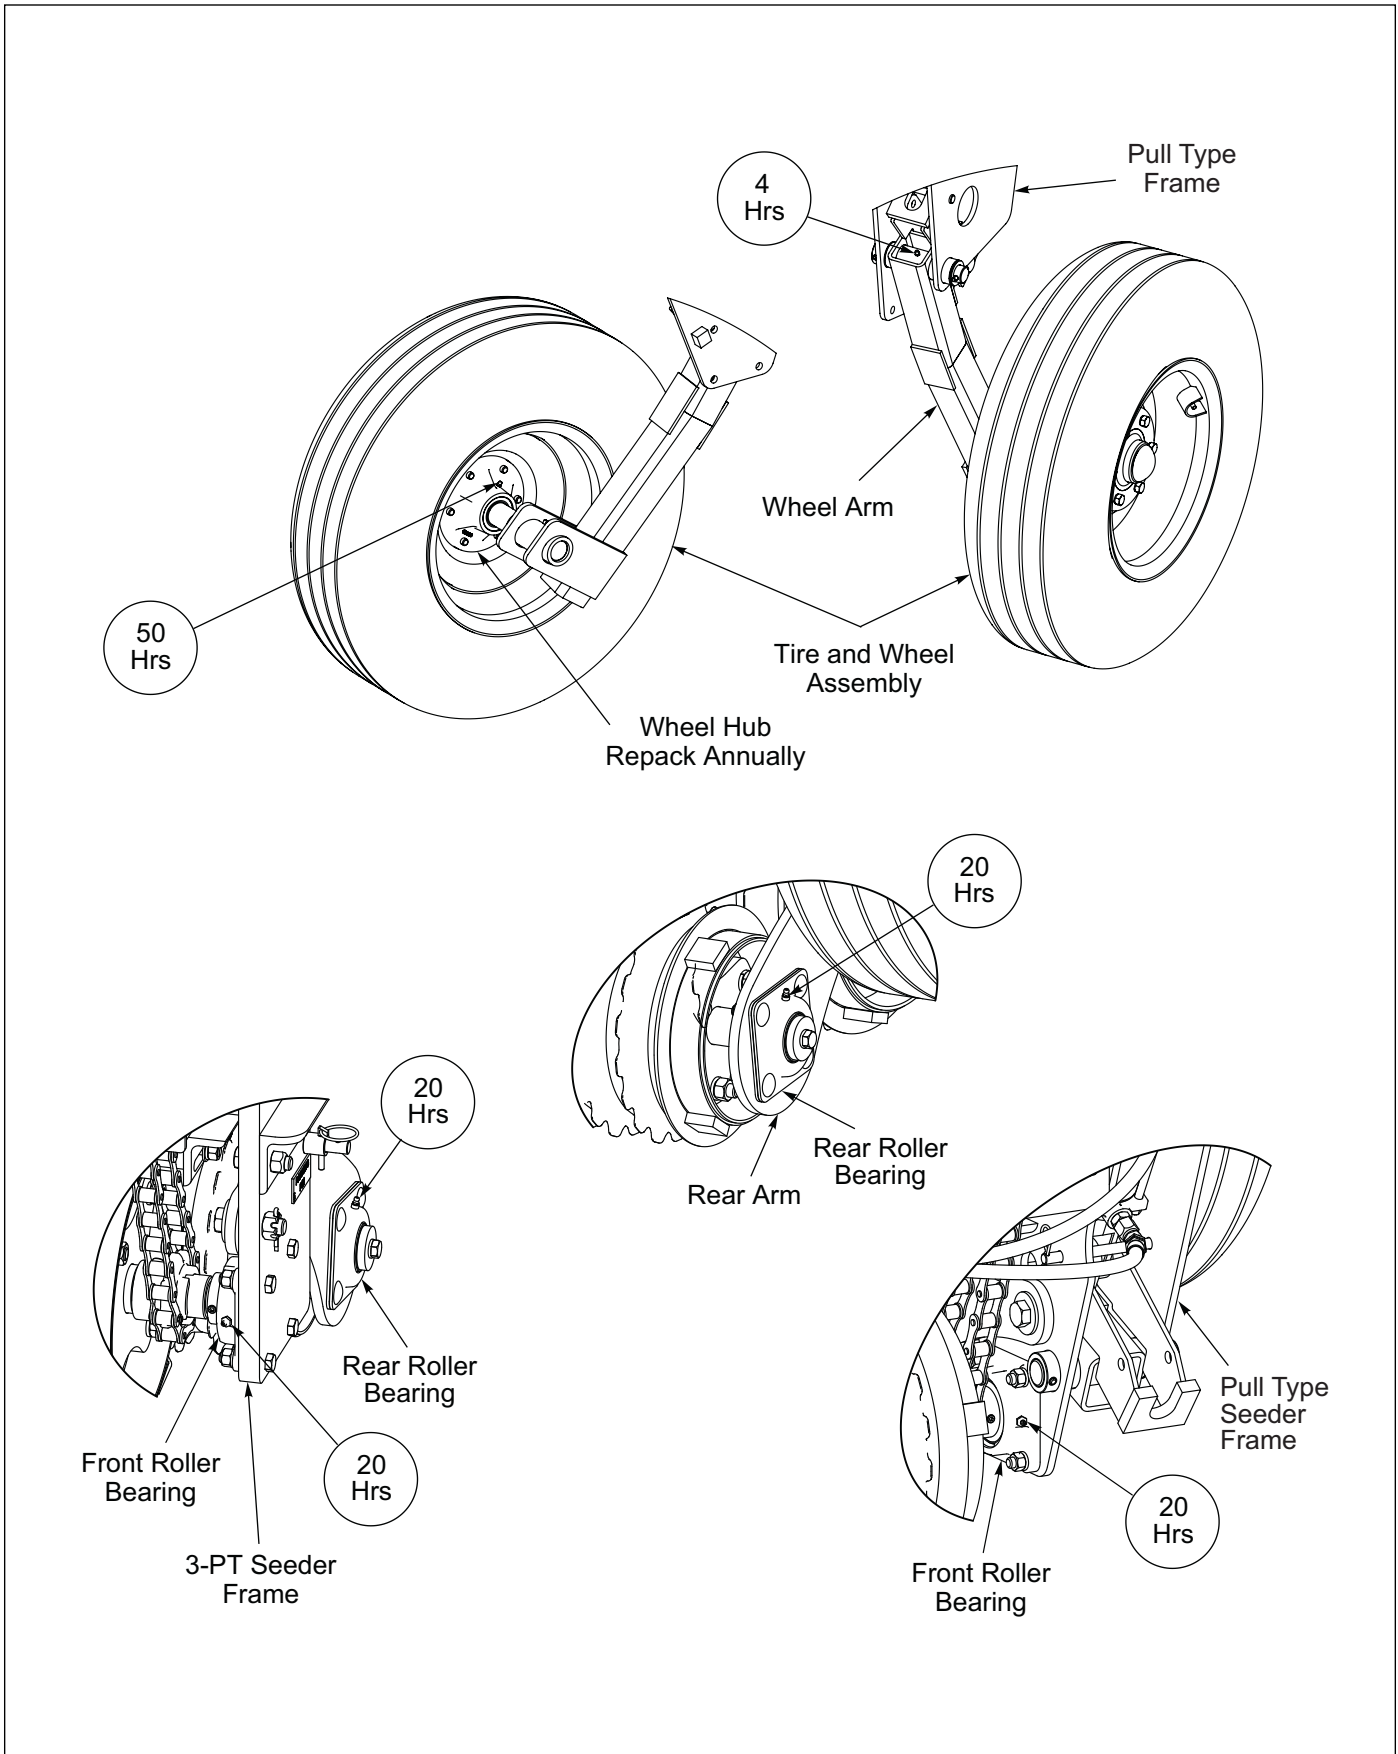

Figure 4-2: Lubrication Intervals
12. Grease Wheels Hubs every 50 hrs. **See Figure 4-2.**
- All Seeders have Greaseable Bearings on the ends of the Front and Rear Rollers and should be greased every 20 hrs. **See Figure 4-2.**